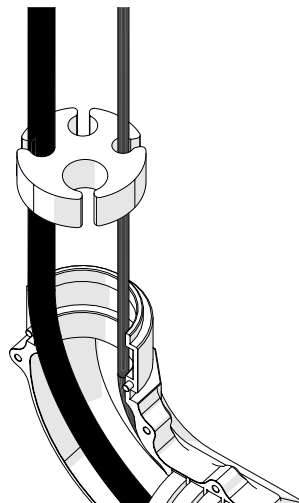

Fig. 84 - Route cables and hoses through rubber cable clamp
4. Press the hoses and cables into the grooves of the rubber cable clamp (*Fig. 84*).